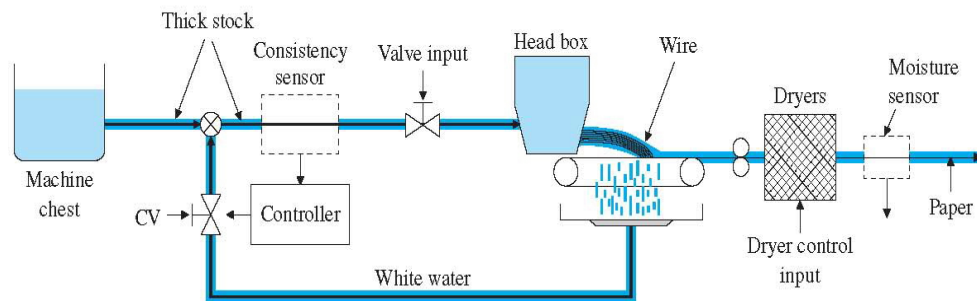

Fig 1.12 A Paper Making Machine
3. A machine for making paper is diagrammed in Fig. 1.12. There are two main parameters under feedback control: the density of fibers as controlled by the consistency of the thick stock that flows from the headbox onto the wire, and the moisture content of the final product that comes out of the dryers. Stock from the machine chest is diluted by white water returning from under the wire as controlled by a control valve (CV). A meter supplies a reading of the consistency. At the “dry end” of the machine, there is a moisture sensor. Draw a signal graph and identify the seven components listed in Problem 1 for